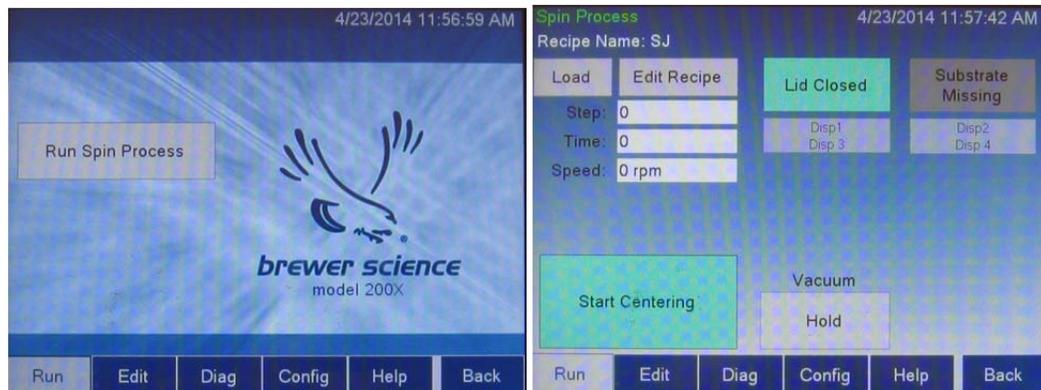

Figure 3
- Click on the “Run” button on the bottom of the screen (Figure 3 left). Then click on the “Run Spin Process”. The “Spin Process” screen will show up (Figure 3 right).